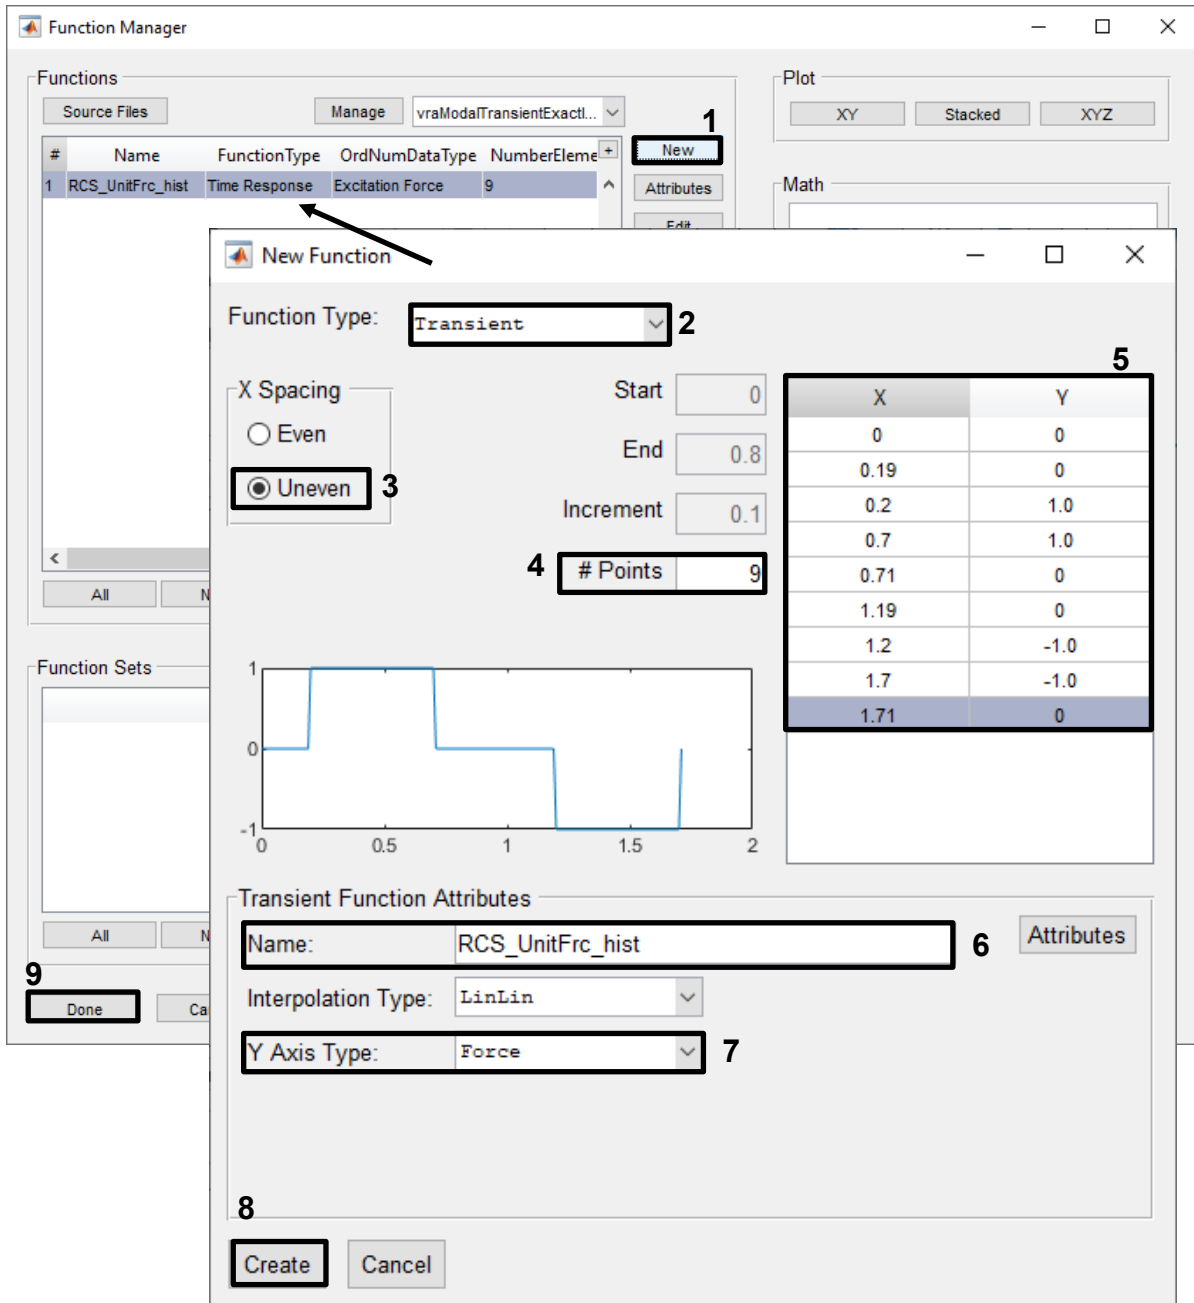
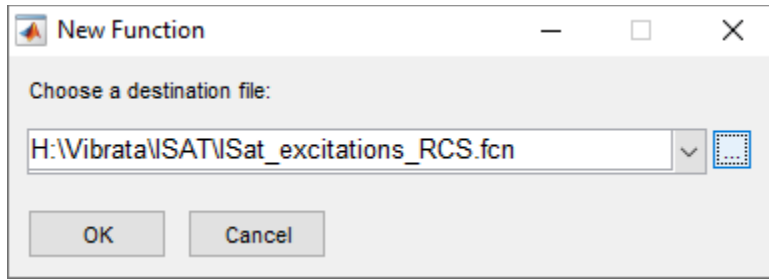

Figure 4-94. Thruster force transient for Isat maneuver.
Figure 4-95. Save the Isat thruster forcing function to a file.
5. In the Function Manager, you will create a time function to excite the Isat transient event. If you have already run the random examples in section 4.3.1, open the "Isat_excitations.fcn" file used there; if that file does not currently exist, you will create it when you have finished defining the function for the current example. As shown in Figure 4-94, create a new transient function, set its Y-axis to *Force*, give it uneven X-spacing, set the number of points to 9, and assign it the X and Y values shown. The pulses have unit amplitude; this will let us size the RCS thrusters just by scaling the excitations. Remember to give the function a recognizable name. Click **Create** to store the function to an *fcn* file (Figure 4-95). Click **Done** on the Function Manager to return this function to the Point Force dialog. Assign it a scale factor of